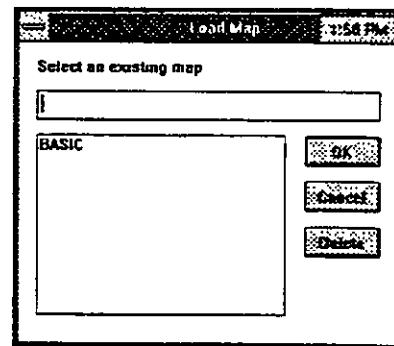

Figure 14-12
2. The Load Map dialogue box as shown in Figure 14-12 is displayed. In this example only one map has been created using the Mapping application. The map was saved under the name BASIC. You will double click on the name BASIC, or click it once and press ENTER.